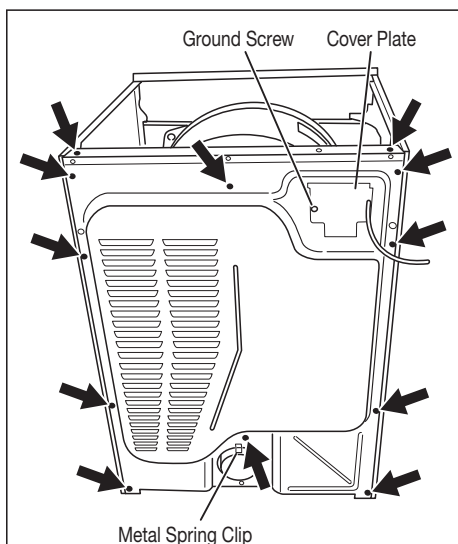

Figure 20. Remove 12 screws.
4. Remove the metal spring clip between the back panel and the exhaust outlet. See figure 20.
5. Remove the ten screws on the rear, and two screws on the top of the back panel. Pull the back panel off the dryer. See figure 20.